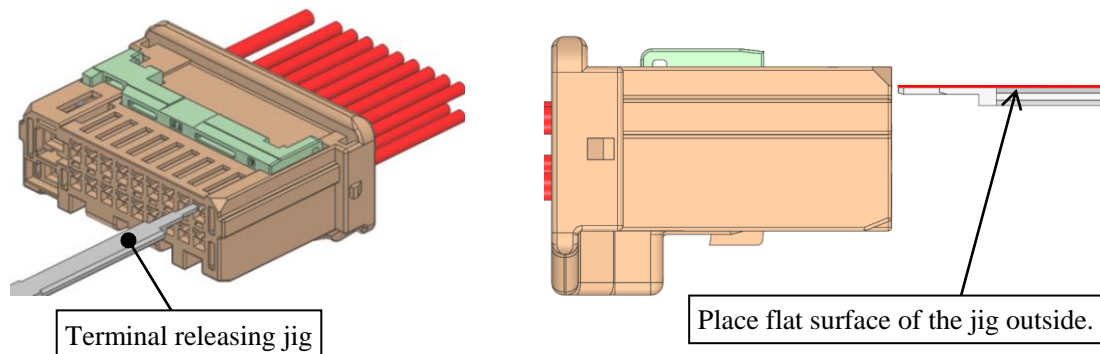

Fig29. Housing and Direction of release
- ① Ensure that the rear holder and the retainer have been removed.
- ② Hold the wire and push in the female terminal lightly. Place the female terminal releasing jig into the releasing apertures of the female housing (see Figs. 29 and 30).